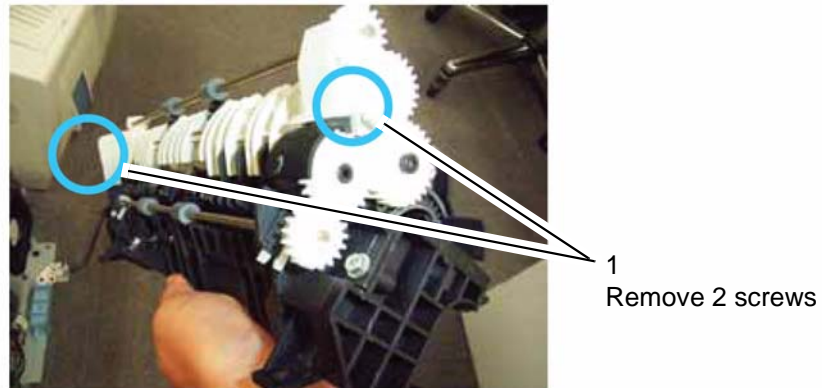
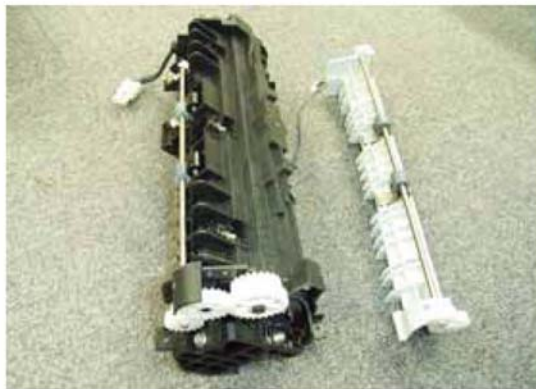

Figure 2
Figure 3
2. Remove 2 screws to remove the paper exit assembly, Figure 2 and Figure 3.